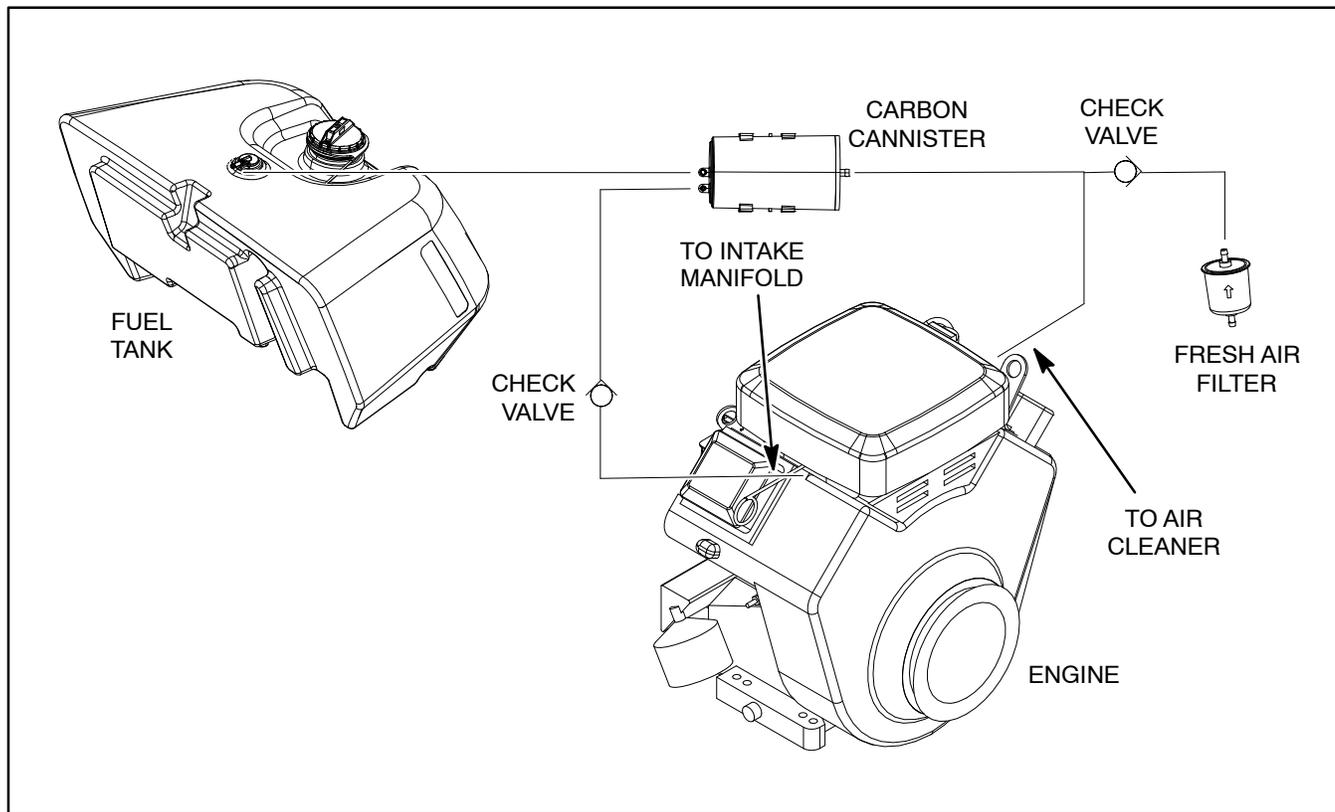
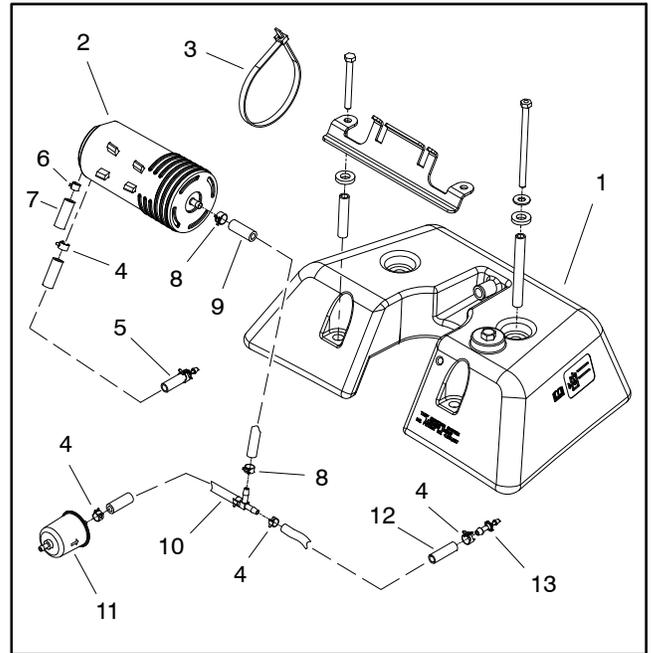

Figure 5
Figure 6
The carbon cannister is mounted on the hydraulic leak detector tank (Fig. 6). The evaporative system includes two (2) connections to the engine: one to the intake manifold and the second to the air cleaner base. Venting hose assemblies (purge hose assembly and t-hose assembly) include check valves in two (2) locations as shown in Figure 5.
NOTE: The purge hose assembly (item 5 in Fig. 6) and tee hose assembly (item 10 in Fig. 6) both include a check valve as a component of the hose assembly. The check valve is not available as a separate part. To ensure proper operation of check valves, do not attempt to remove them from the hose assembly. If either of these hose assemblies is removed, make sure that they are correctly installed to ensure proper operation of the evaporative control system.
Disassembly (Fig. 6)
2. Remove components as needed using Figure 6 as a guide.
A. If either purge hose assembly (item 5) or T-hose assembly (item 10) is to be removed, label ends of hose for assembly purposes. Both of these assemblies include a check valve so direction of installation is important for correct operation of the evaporative control system. The check valve is not available as a separate part so hose assembly replacement is necessary if the check valve or hose is faulty. To ensure proper operation of check valves, do not attempt to remove them from the hose assembly.
1. Install all removed components using Figure 6 as a guide.
A. If either purge hose assembly (item 5) or T-hose assembly (item 10) was removed, make sure that installation is correct.